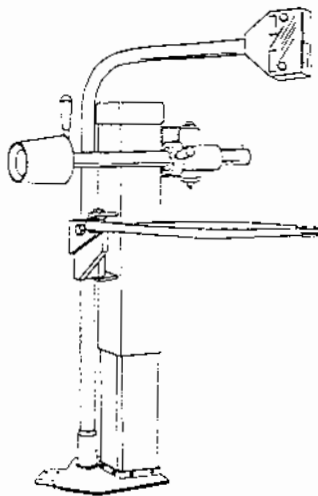

Figure 5a
**87434 - Mount/Demount Assisant** (Fig 5a)